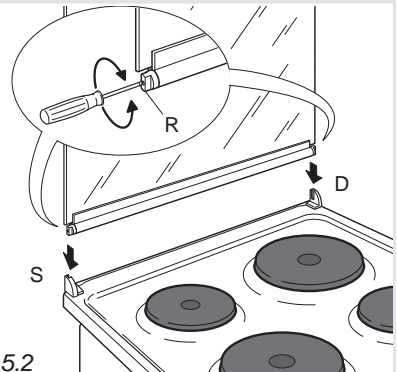

Fig. 5.2
- The right housing must receive the hinge marked "D" while the left housing must receive the hinge marked "S" (Fig. 5.2)
If necessary, register the calibration of the hinge springs using the screws "R" (fig. 5.2).